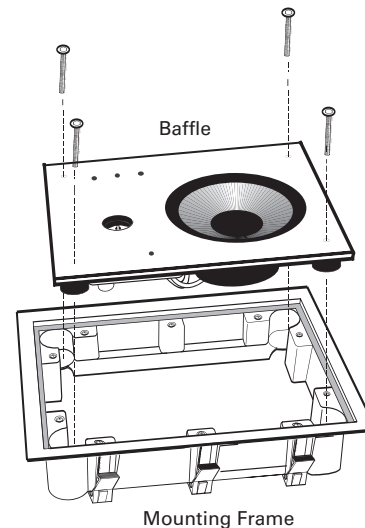

Figure 12: Remove Baffle From Mounting Frame
4. The speakers are shipped with the baffle assembly attached to the mounting frame at its four corners. Unscrew the four screws and carefully lift the baffle assembly out of the mounting frame, as shown in Figure 12.